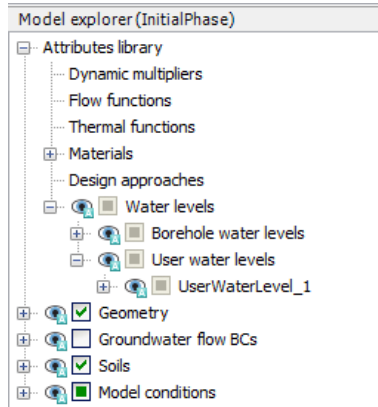

Figure 8.5 Water levels in *Model explorer*
- Expand the *User water levels* subtree. The created water level can be seen named as 'UserWaterLevel\_1'. The location of the water levels in *Model explorer* is shown in Figure 8.5.